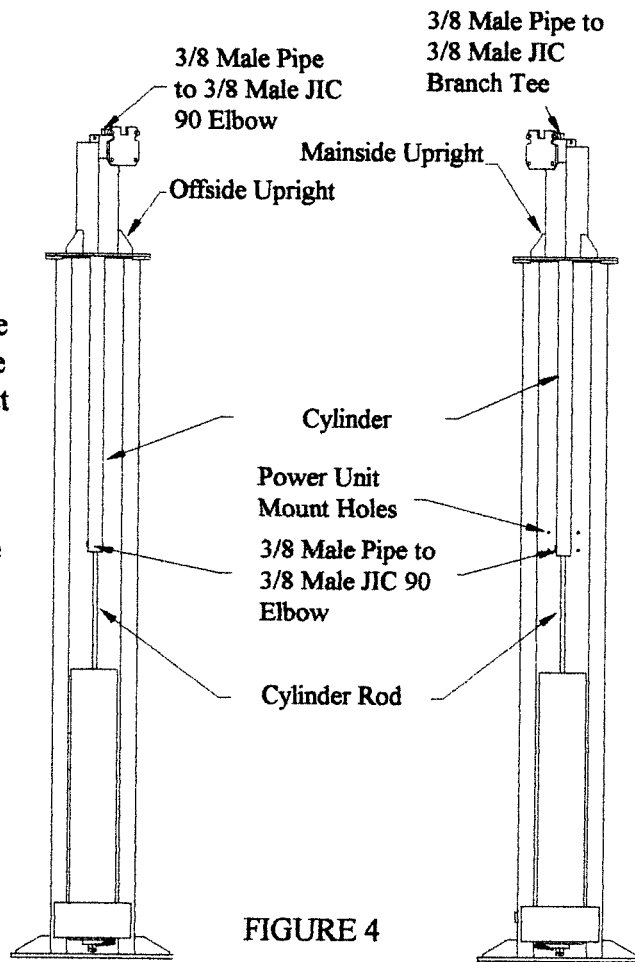

FIGURE 4
6. Remove the port plugs from the two cylinders. When attaching hydraulic fitting with pipe threads to the cylinders use Teflon tape. **DO NOT START THE TAPE CLOSER THAN 1/8" TO THE END OF THE PIPE FITTING.** This will prevent pieces of tape from contaminating the system. Refer to Figure 4 on the following page. Attach a male pipe thread to male JIC 90 elbow to the nipple at the rod end of both cylinders. The fitting should face away from the rod end and toward the top of the cylinder.